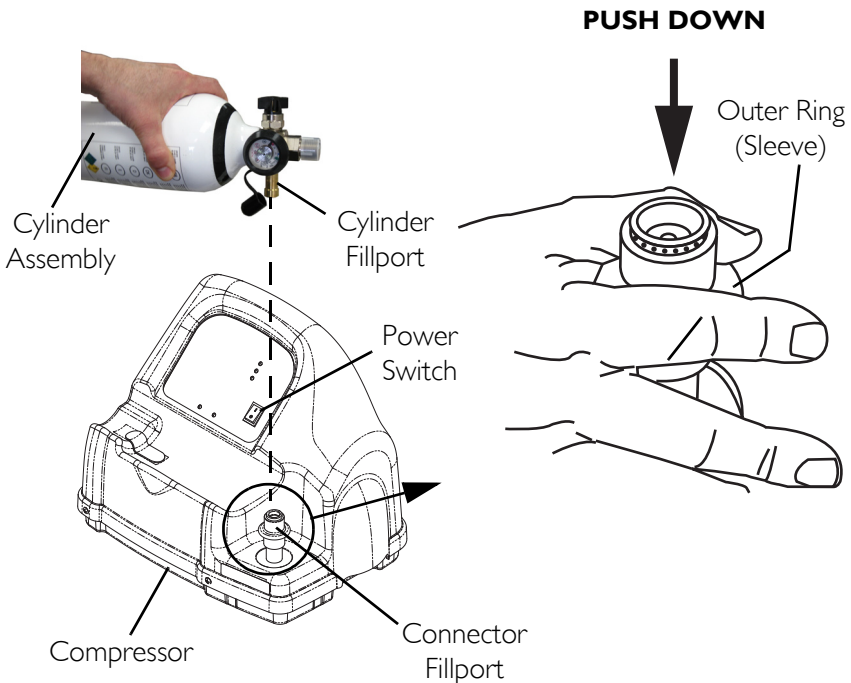

FIGURE 4.5 Disconnecting the Cylinder from the Compressor
11. After the cylinder is full, press the compressor power switch to the Off (O) position (FIGURE 4.5).
12. Grasp the cylinder assembly (FIGURE 4.5).
13. With the other hand, grasp the outer ring (sleeve) of the connector fillport and push DOWN (FIGURE 4.5).
14. Lift up on the cylinder assembly to remove from the connector fillport (FIGURE 4.5).
15. When the cylinder fillport is disconnected from the connector fillport, release the outer ring (sleeve) of the connector fillport (FIGURE 4.5).
16. Remove the cylinder from the compressor cradle (FIGURE 4.5).